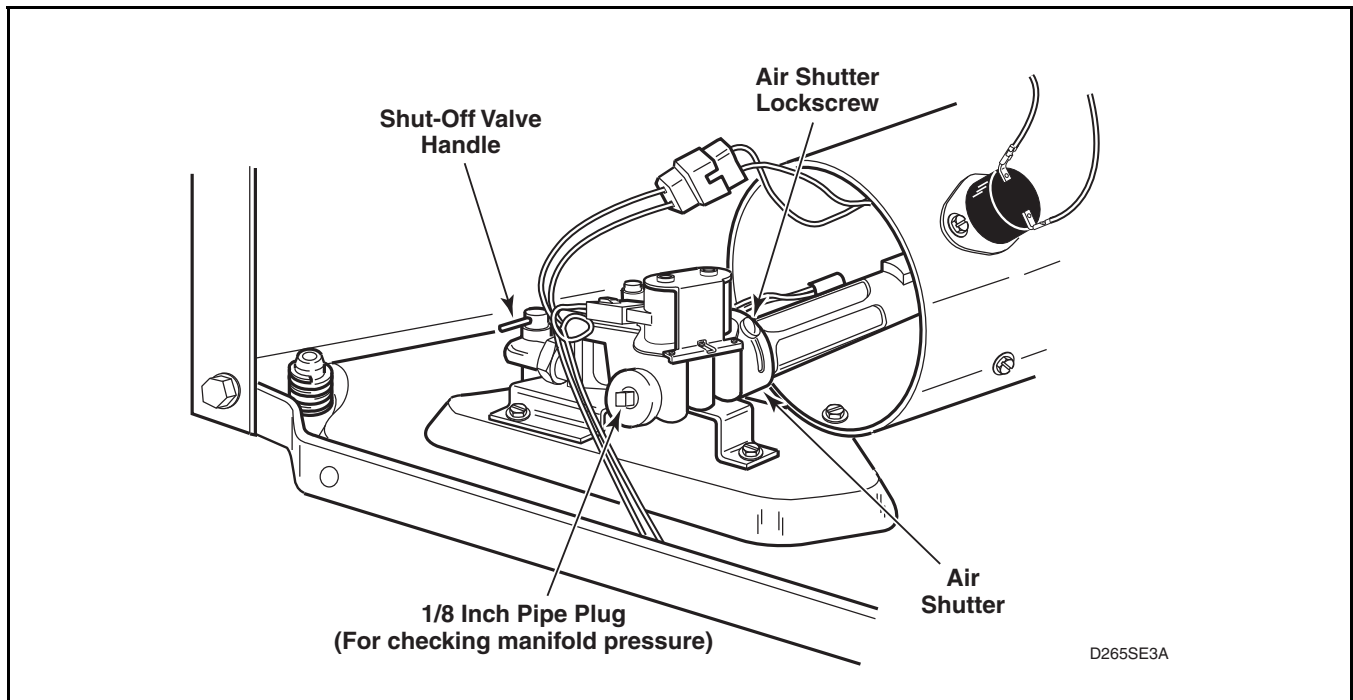

Figure 11
- e. Allow the dryer to operate for approximately five minutes, then loosen the air shutter lockscrew. Refer to *Figure 11*.
- g. After proper flame is obtained, tighten air shutter lockscrew firmly. Refer to *Figure 11*.